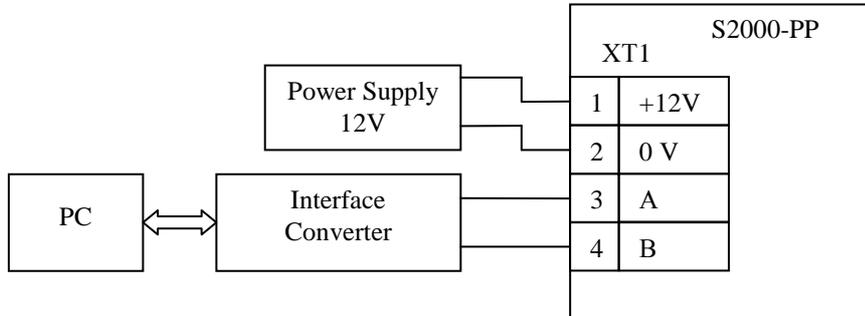

Figure 8. The Schematic for Configuring the S2000-PP
- wire it as shown in Figure 8,